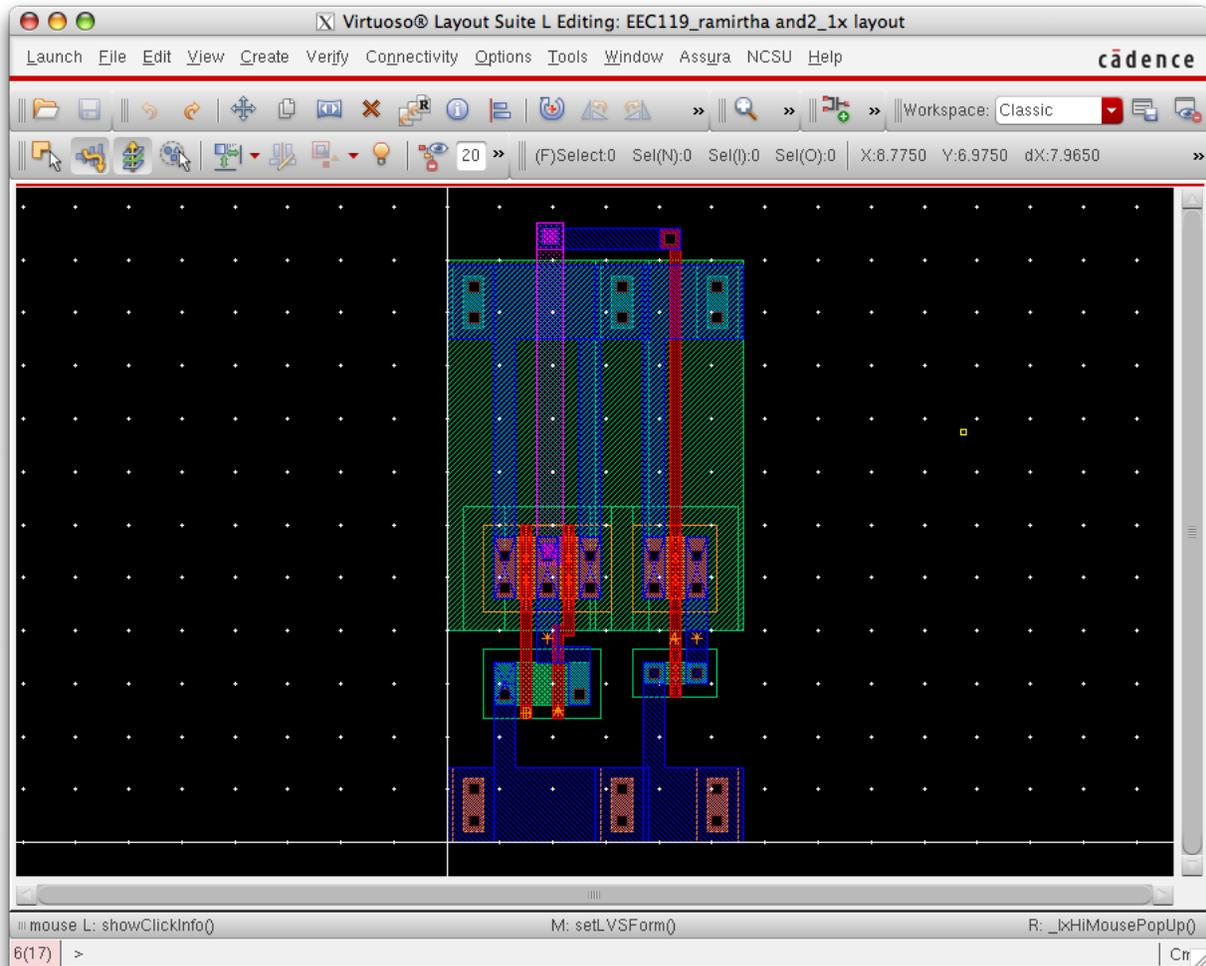

Figure 5: AND gate layout.
**Part 9 Hierarchical Layout and Verification: AND Gate** Create and verify a layout for the `and2_1x` cell you started in the first part of the lab. Begin by creating and verifying a layout for the `nand2_1x` cell and then wiring the NAND gate and the inverter as shown in Figure 5. The output of the NAND gate is routed to the input of the inverter in an external *routing track* for `meta11`. The vertical connection is made in `meta12`, therefore you need to create a *via* to connect the two metal layers. You can do this by hand or by instantiating a layout from the technology library. Note that there is some wasted space in the example which you can eliminate by taking advantage of certain symmetries in the the cells. See if you can improve the cell so it consumes less area. Add the input, output, and power supply pins and make sure your design is DRC and LVS clean (no errors).